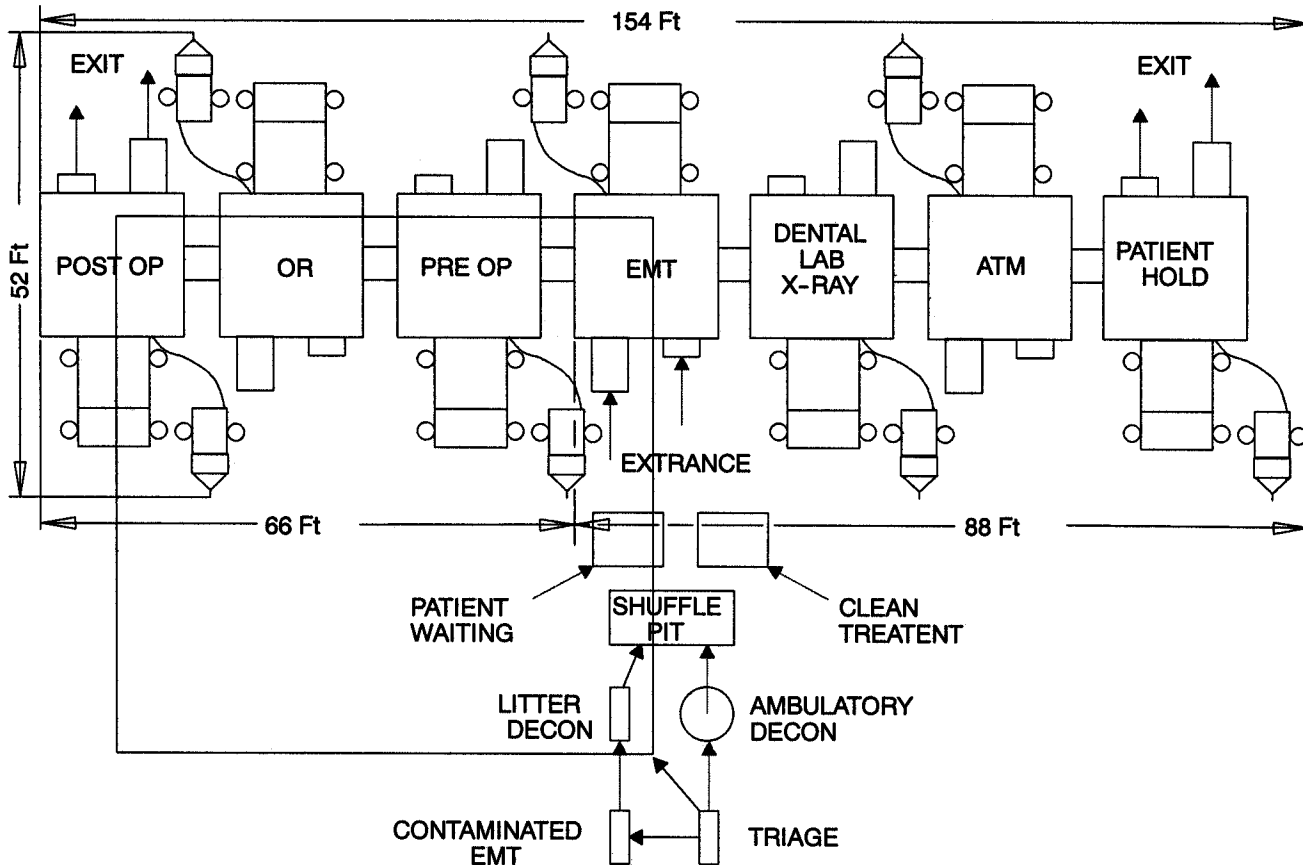

Figure 2-24. DCS & FST Setup
- (1) Select sight on level, dry ground in clear area approximately 66 feet by 52 feet with a minimum of 15 feet of overhead clearance (figure 2-24).
- (1) Select sight on level, dry ground in clear area approximately 88 feet by 52 feet with a minimum of 15 feet of overhead clearance (figure 2-24).
- (1) Select sight on level, dry ground in clear area approximately 154 feet by 52 feet with a minimum of 15 feet of overhead clearance (figure 2-24).